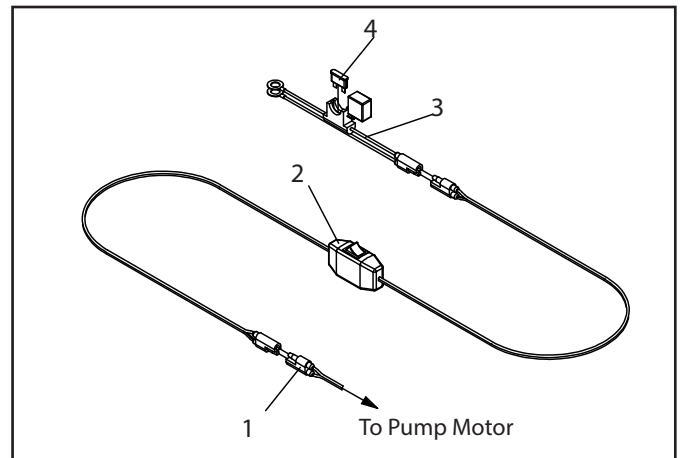

Figure 2: Wiring Harness
1. The wiring harness needs to be connected to a DC power source (vehicle battery) or a power access point providing at least 12 volts & 10 amps of current to the ring terminals on the fuse harness (3) (Figure 2). NOTE: Make sure that the selected power source provides the adequate power requirements as stated above. Inadequate power can cause problems and performance issues with the pump.
2. Connect the red wire to the positive terminal on the vehicle's battery or other alternate power source positive terminal. Proceed to connect the black wire to the negative terminal of the vehicle's battery or a good ground source. NOTE: The fused wire harness (3) (Figure 2) can be unplugged from the switch harness (2) (Figure 2) and be left attached to the battery or power source for convenience purposes.
3. Mount the switch (2) (Figure 2) in a location that is easily accessible for operation on the vehicle. Make sure to secure the switch so that it cannot fall out of place or become entangled and cause damage. NOTE: Use caution when routing the wiring harness to avoid areas where the wires could become pinched, rubbed, or exposed to excessive heat.